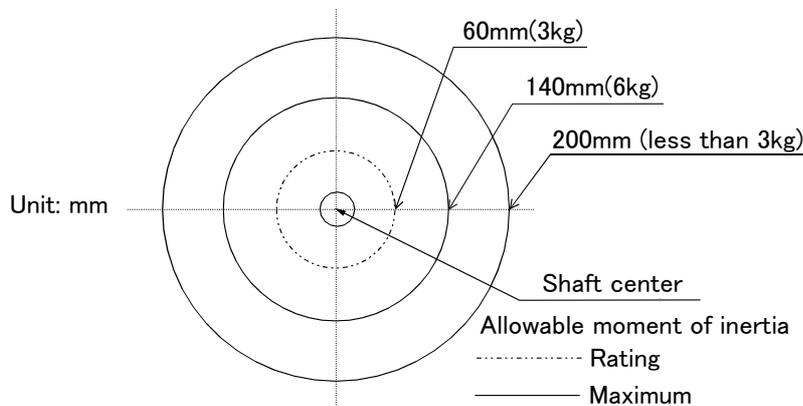
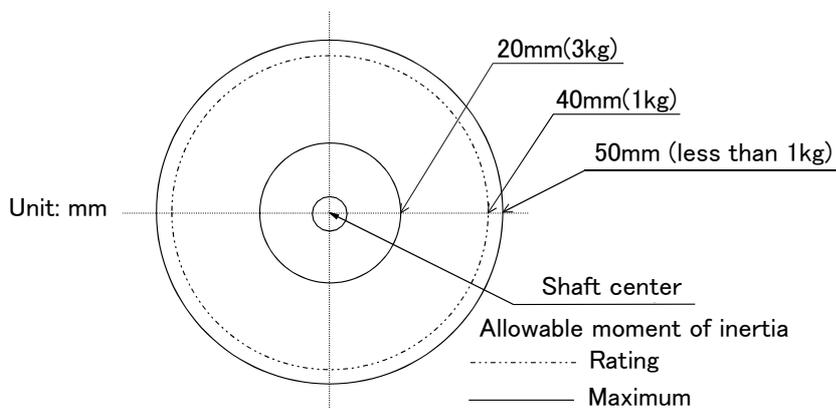

Fig.2-3 : Position of center of gravity for loads (for loads with comparatively small volume): RH-6FH series
Fig.2-6 : Position of center of gravity for loads (for loads with comparatively small volume): RH-3FHR series
- (1) The tooling should have the value less or equal than the smaller of the allowable moment of inertia found in Page 16, "2.1.1 Basic specifications".
- (2) Fig. 2-3 to Fig. 2-6 shows the distribution dimensions for the center of gravity in the case where the volume of the load is relatively small. Use this figure as a reference when designing the tooling. Please use the robot in the allowable moment of inertia of maximum moment of inertia shown in Fig. 2-3 to Fig. 2-6.